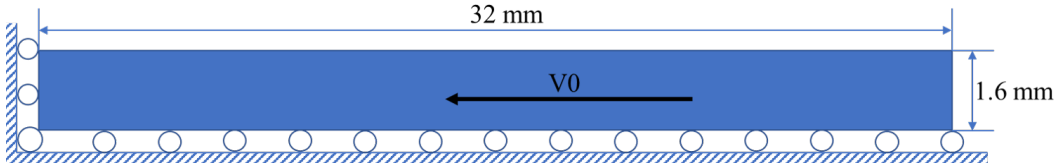

Figure 1: Taylor bar configuration.
2. **Problem 2** (50%) Consider a dynamic elastoplastic problem on the rectangle panel domain as shown in Figure 1. There is no vertical displacement on the bottom and no horizontal displacement